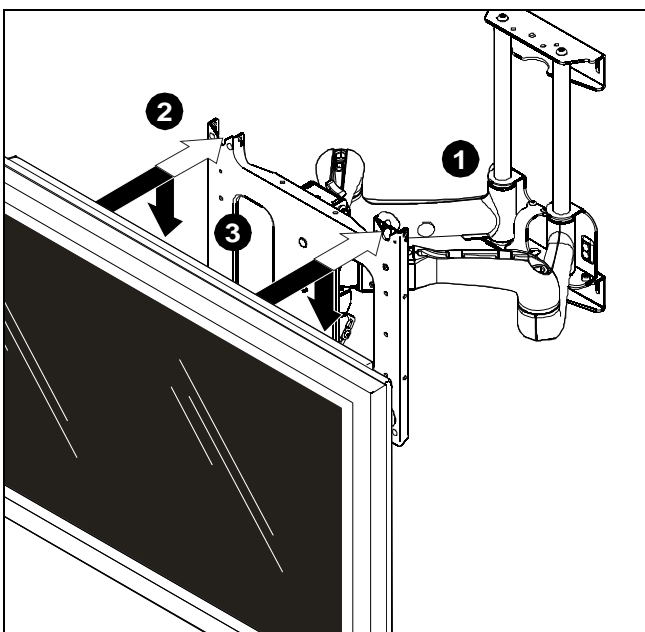
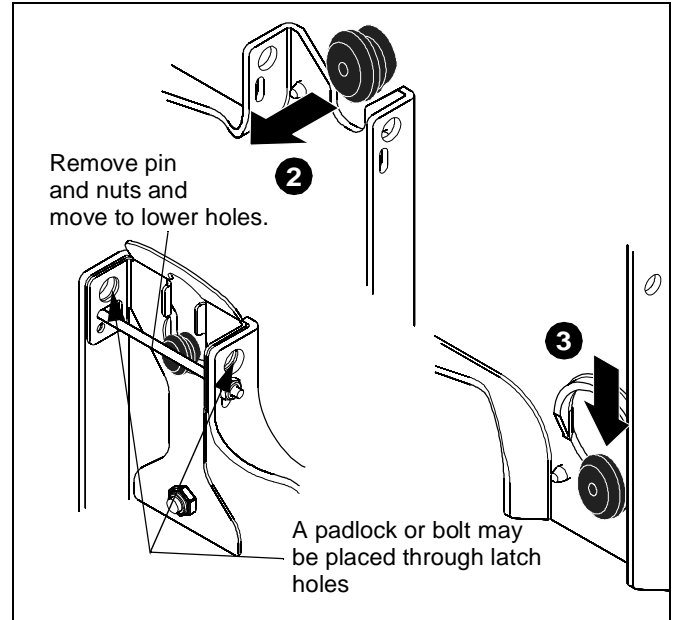

Figure 4
Figure 5
1. Move mount faceplate to extended position by grasping faceplate and pulling outward away from wall. (See Figure 4)
2. While supporting both sides of display, align four mounting buttons on display or interface bracket with four mounting holes in faceplate. (See Figure 4)
3. Lower display into place listening for audible "click" to ensure recessed area of mounting buttons are properly seated in lower area of mounting holes and "click lock" mechanism has engaged. (See Figure 4) and (See Figure 5)
NOTE: Holes are provided in the faceplate for use with a padlock or similar locking device, if desired. In addition, the pin and nut may be removed from the upper holes and moved to the lower holes for use as a more permanent locking device. (See Figure 5)